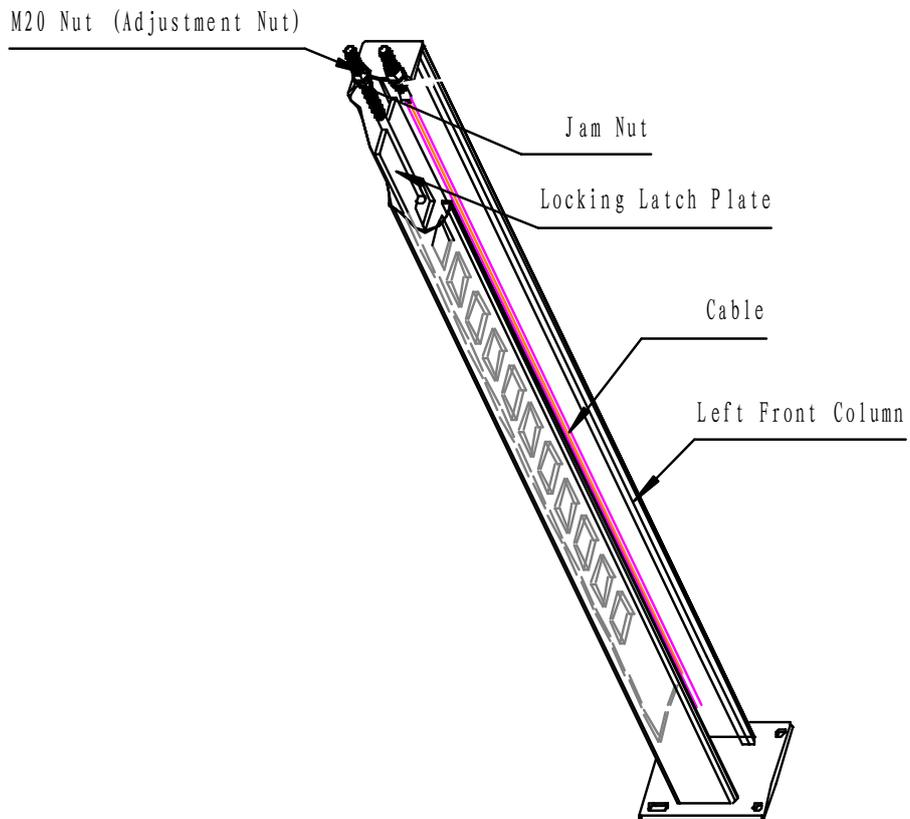

Fig.4
- Leveling preset: 4 adjustment nuts at top plates of the columns can be adjusted to level the runways. (Fig. 4).
back of the column (Fig.4). The latch plate should be oriented toward the back of the column from the centre line of the threaded stud.